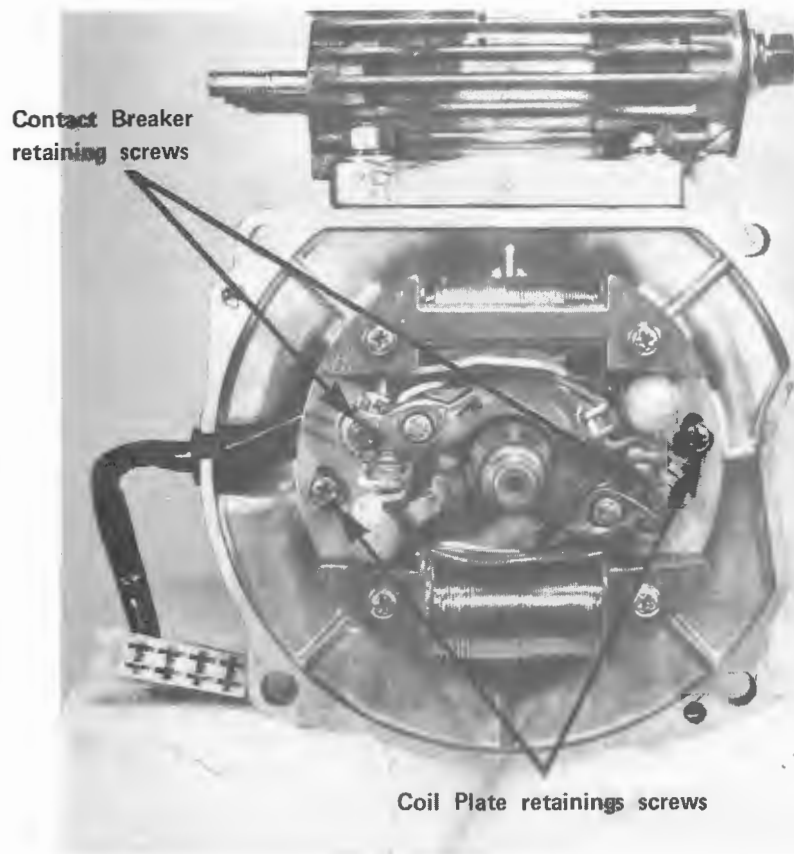

Fig. 5-8 Stator assembly installed
5.2.5 Stator Assembly (See Figure 5-8)